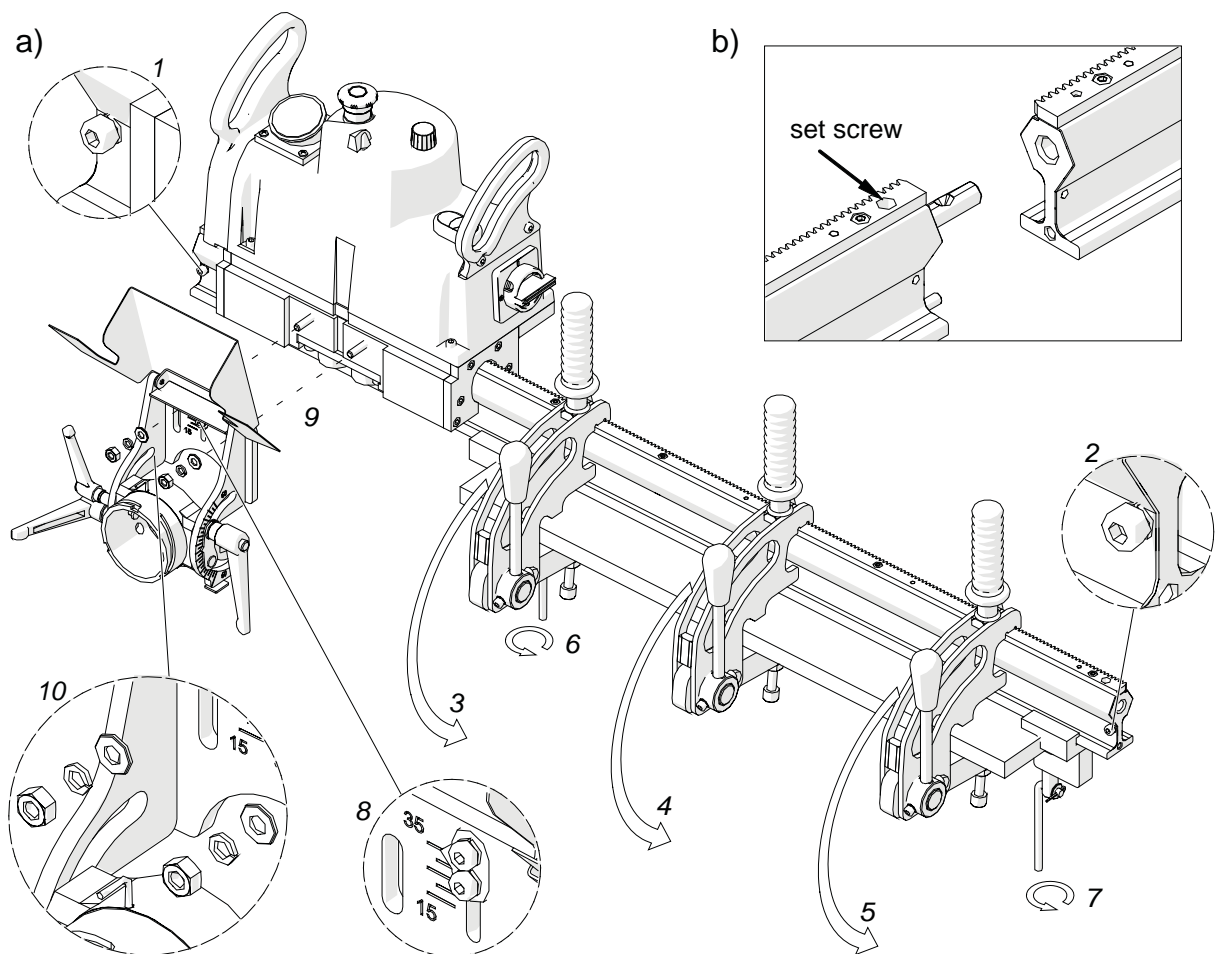

Figure.3. Placing machine on plate (a); mounting additional guide segments (b)
If the plate is to be machined at a negative angle (from the bottom), loosen the two milling unit support screws using the 4 mm Allen key, and set the indicator to the value of the plate thickness (8). Position the milling unit support on the screws (9), place the washers under the nuts (10) in the order shown in Figure 3, and tighten the nuts using 13 mm flat key.